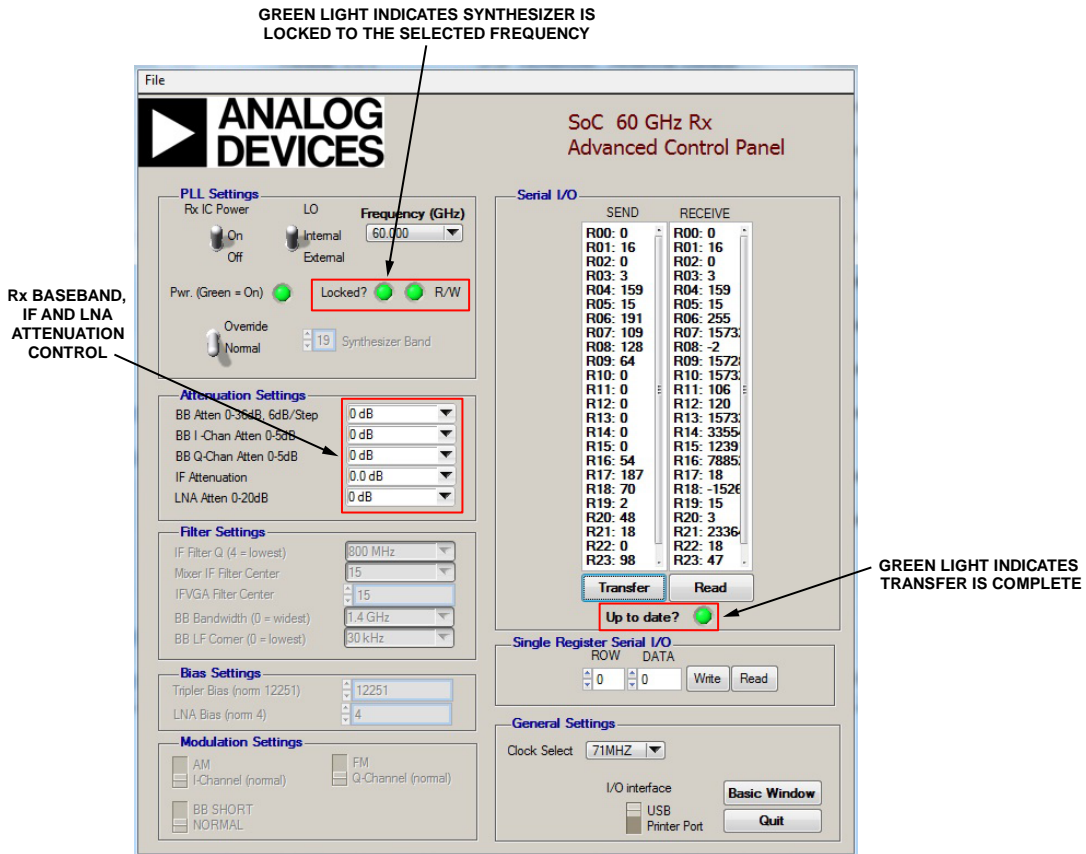

Figure 9. SoC 60GHz Tx Advanced Control Panel Window for the HMC6301 Rx GUI After Successfully Programming the HMC6301 to 60 GHz
2. Click the **Transfer** button and the HMC6301 device programs and locks to the desired frequency. If the HMC6301 device is successfully programed, the **R/W LED** under **PLL Settings** turns green, indicating the read/write operation is properly executed. If the device locks to the selected frequency, the **Locked? LED** under the **PLL Settings** also turns green (see Figure 9).
Figure 9 shows a successful data transfer and synthesizer lock. The receiver then functions on the selected channel. The Rx baseband, IF attenuation, and LNA attenuation, under the